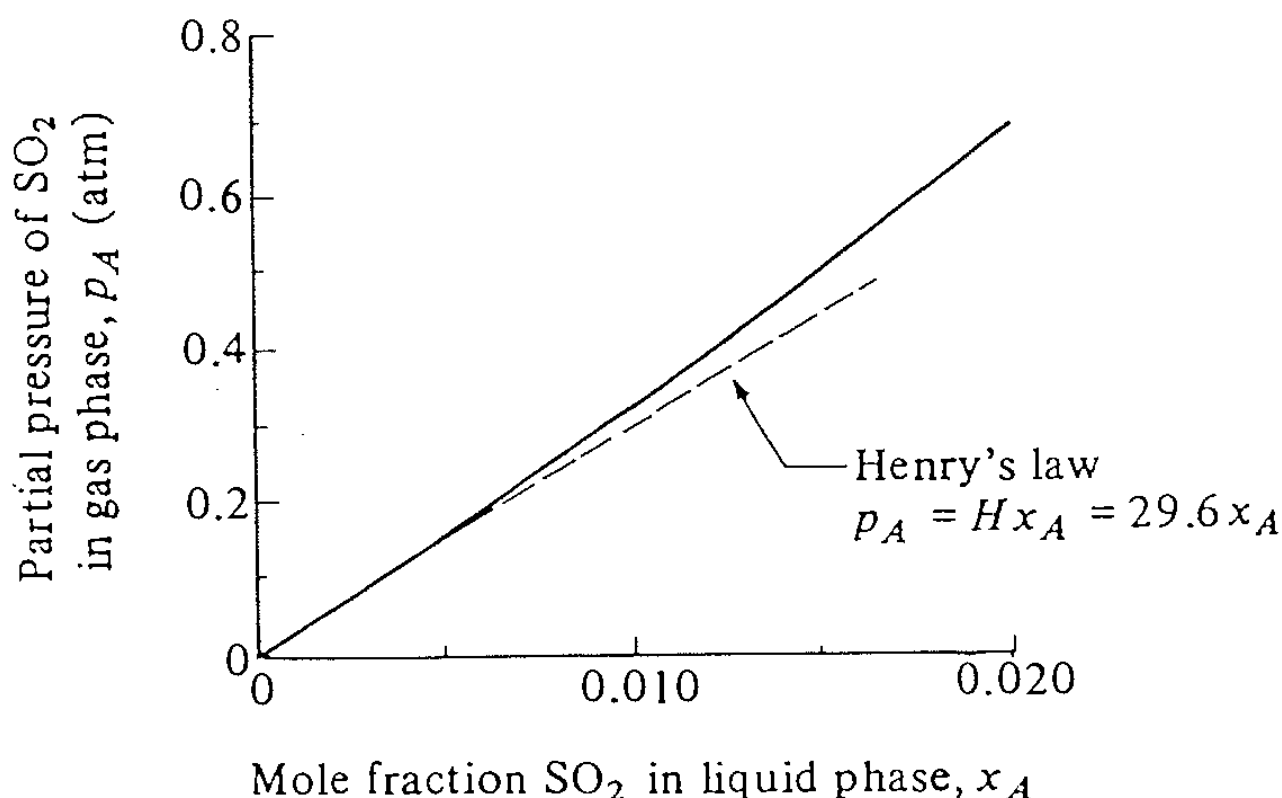

Figure 6: Equilibrium plot for water- $SO_2$  system at  $20^\circ C$ .
- b) Calculate the flow-rates and compositions of the outlet phases using the data in Fig. 6.